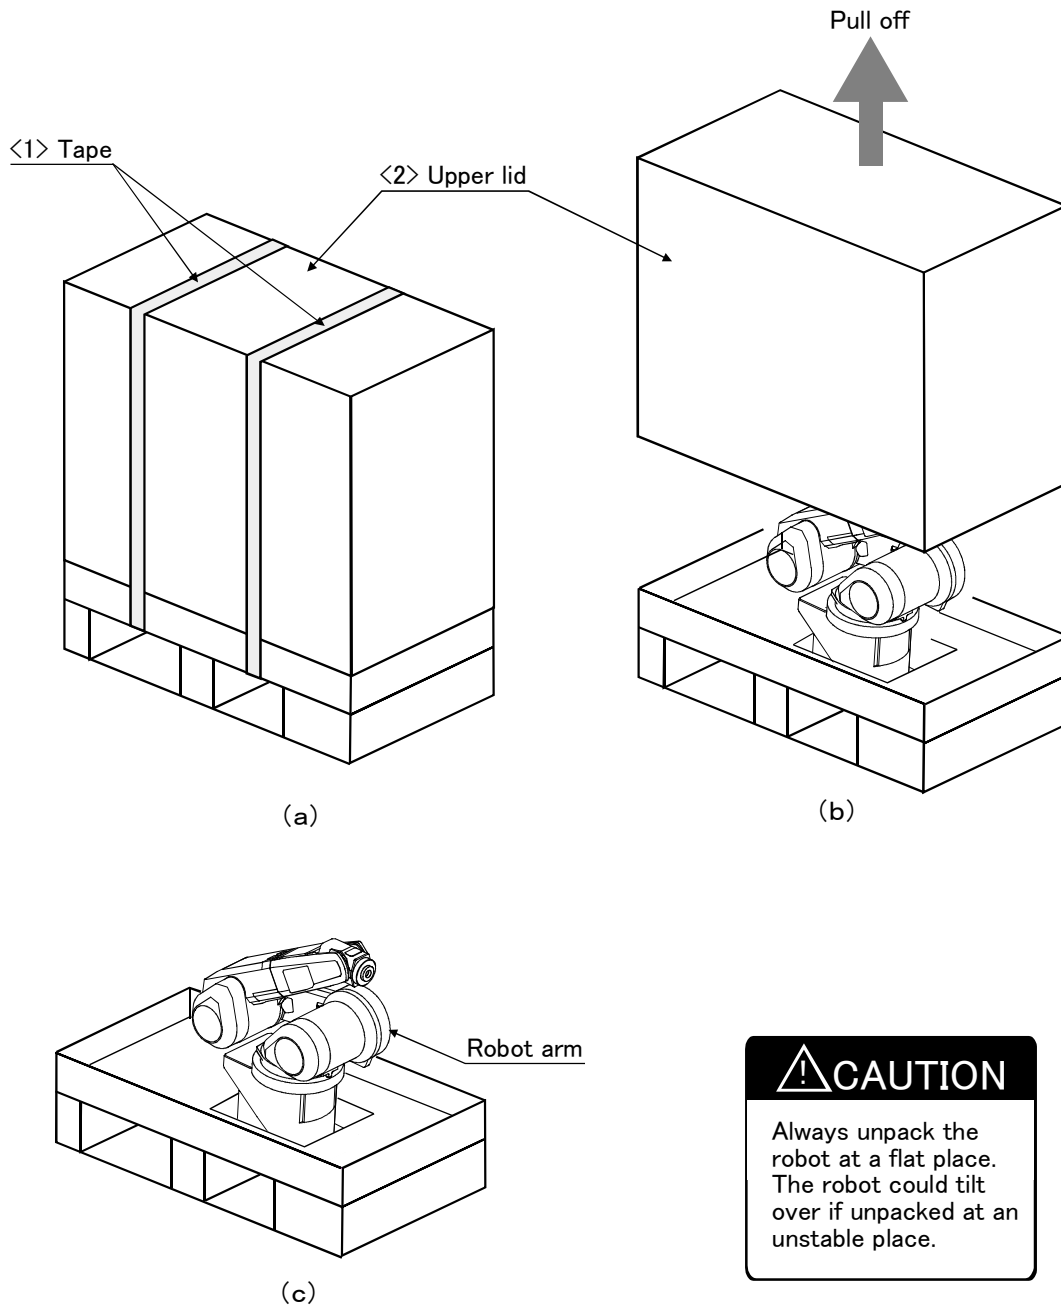

Fig.2-1 : Unpacking the robot arm
The robot is shipped from the factory in cardboard and wooden frame packing. Always refer to Fig. 2-1 and unpack the robot. Handle the robot arm according to "2.2.2 Transportation procedures (Transporting with a crane)".
- 1) Using a knife, etc., slit the tape <1> fixing the upper lid <2> of the cardboard box. (Fig. 2-1 (a))
- 2) Pull the upper lid <2> of the cardboard box off with both hands. (Fig. 2-1 (b))
- 3) Remove the hexagon socket bolts <3> (four positions) connecting the sleeper and the base unit. (Fig. 2-1 (c))
- 4) This completes the unpacking. (Fig. 2-1 (c))